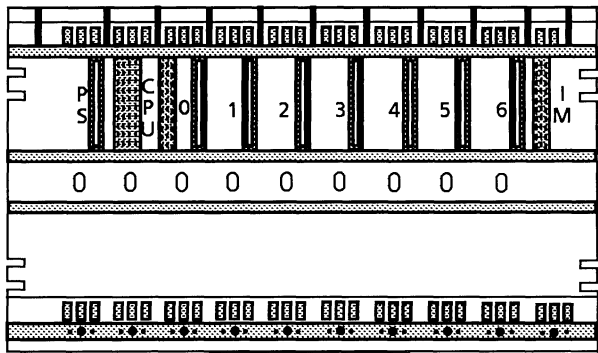

Figure 3.1 Typical Mounting Rack (CR 700-1)
Various mounting racks are available to suit the performance or the degree of expansion the control system is to have. Each mounting rack consists of an aluminum mounting rail for fastening all modules mechanically and one or two backplanes for connecting the modules to each other electrically. The module locations (slots) are numbered in ascending order from left to right (see Figure 3-1).
A central controller has a power supply module (PS), a central processing unit (CPU), and various input/output modules (I/Os). Depending on requirements, digital or analog modules, communications processors (CPs), or intelligent input/output modules can be used. Figure 3-1 shows a basic CC configuration.